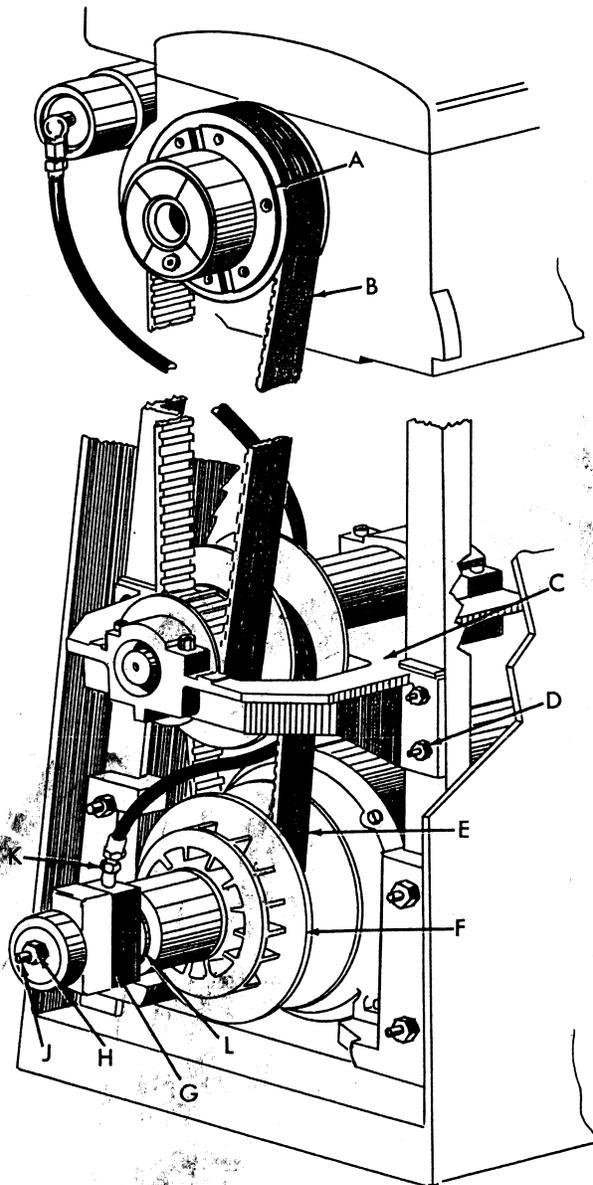
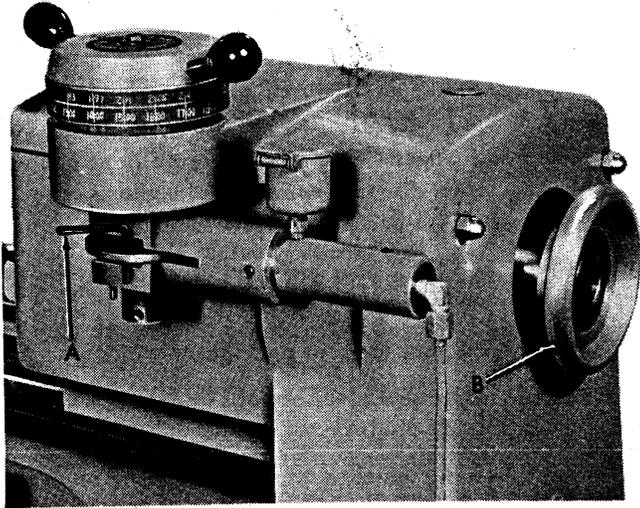
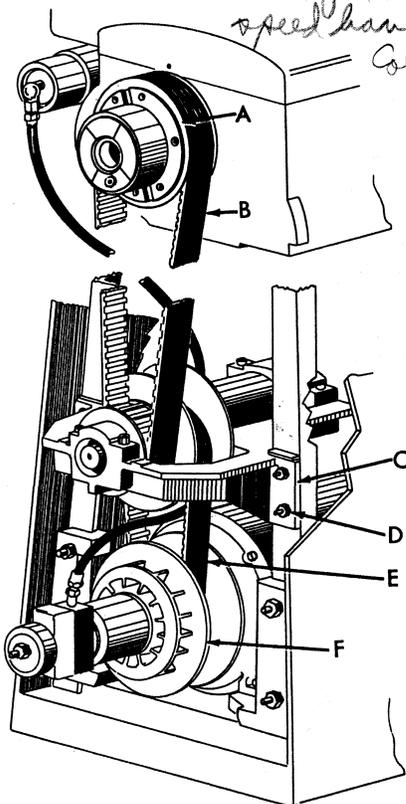
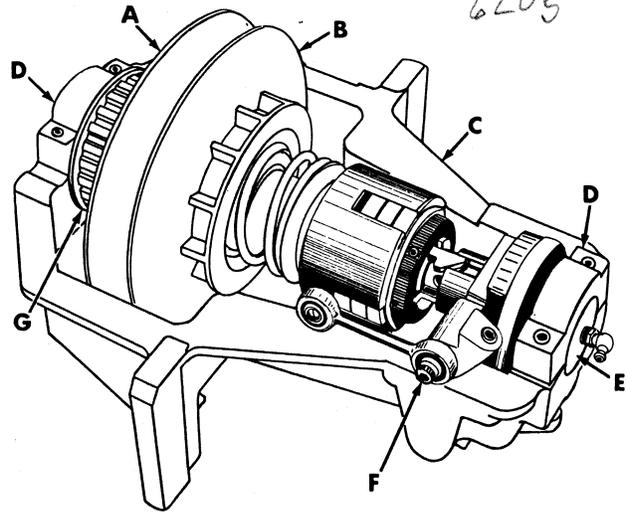

Figure 24
Figure 21
Figure 22
Figure 23
2. Measure distance from end of shaft (J, Fig. 24) to locknut (H). **NOTE:** Record this dimension.
3. Disconnect fitting (K) and drain oil from unit.
4. While holding variable pulley (F) from rotating remove locknut (H).
5. Pull dual hydraulic cylinder (G) and outer half of variable pulley (F) off the shaft (J).
6. Press dual hydraulic cylinder (G) with bearing (L) from variable pulley (F).
7. Slide new dual hydraulic cylinder with bearing into variable pulley hub (F), then slide the assembly onto shaft (J).
8. Start locknut (H) on shaft (J).
9. Hold the variable pulley so it will not rotate and then turn locknut (H) onto shaft (J) until distance from the end of the shaft (J) to locknut (H) is the same as step 2.
10. Start fitting (K) onto hydraulic cylinder (G). **NOTE:** Do not tighten.
12. Keep oil reservoir filled, hold variable dial against low speed stop until oil runs out around fitting (K) – it takes a few minutes for oil to run down.
1. Holding variable pulley (F fig. 24) so it will not rotate, turn lock nut (H) -- clockwise if speed is too low, counter-clockwise if speed is too high.
2. Remove spindle handwheel (B) (fig. 21), belt guards and front cover.
3. Turn variable dial back to lowest speed and lock dial in place with pin (A).
4. Pull on outer sheave of lower variable motor pulley (F) (fig. 24) until variable belt (E) is loose.
5. Thru front cover opening, remove 5/16"-18 hex cap screw (F) (fig. 23) and spacer from clutch linkage.
6. Remove four hex nuts (D) (fig. 24). Raise countershaft (C) slightly and slip timing belt (B) off spindle pulley (A). Lower countershaft and slip variable belt (E) off variable motor pulley (F).
8. Remove bearing caps (D) (fig. 23), snap rings and countershaft spindle (E) from bracket (C).
9. Remove timing belt from countershaft pulley (G).
10. Place new timing belt on countershaft pulley (G).
11. Install spindle in countershaft bracket and secure in place with snap rings and bearing caps (D). **IMPORTANT:** Make sure variable belt is in place before installing bearing caps.
12. Position the countershaft (C) (fig. 24) so variable belt (E) can be slipped on motor pulley (F), then raise countershaft so timing belt (B) can be slipped on spindle pulley (A).
13. Place countershaft assembly on the four mounting studs (D), then snug up the four hex nuts. Refer to Tensioning Timing Belt Steps 2-5. (P.12-1)
15. Remove lock pin (A, fig. 21) from variable cam housing.
3. Turn variable dial back to lowest speed and lock dial in place with pin (A). *Won't fit, wire speed handle to collet cover.*
4. Holding variable dial against low speed stop, pull on outer sheave of lower variable motor pulley (F) (fig. 22) until variable belt (E) is loose.
5. Thru front cover opening, remove 5/16"-18 hex cap screw (F) (fig. 23) and spacer from clutch linkage. *Use 1/4" hex key.*
6. Remove four hex nuts (D) (fig. 22). Raise countershaft (C) slightly and slip timing belt (B) off spindle pulley (A). Lower countershaft and slip variable belt (E) off variable motor pulley (F).
11. Install spindle in countershaft bracket and secure in place with snap rings and bearing caps (D). IMPORTANT: Make sure timing belt is in place before installing bearing caps. *and VS belt.*
13. Position the countershaft (C) (fig. 22) so variable belt (E) can be slipped on motor pulley (F), then raise countershaft so timing belt (B) can be slipped on spindle pulley (A).
14. Place countershaft assembly on the four mounting studs (D), then snug up the four hex nuts. Refer to Tensioning Timing Belt steps 2-5.